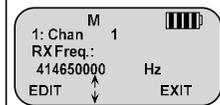

Figure 6
7. **RX Frequency:** Press the "Edit" softkey to edit the RX Frequency. Press the "C" key several times to clear the frequency and enter the new RX Frequency and press the "OK" softkey. (See Figure 6)